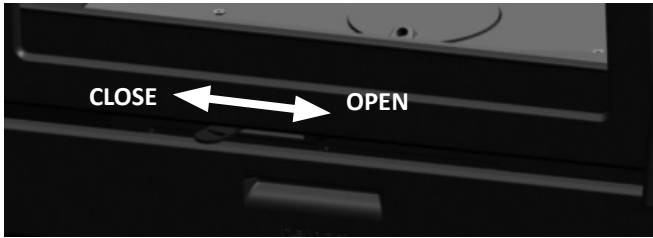

FIG. 3
- Move the regulation valve from left to right to provide a greater inflow of air to favour combustion (Fig. 3).